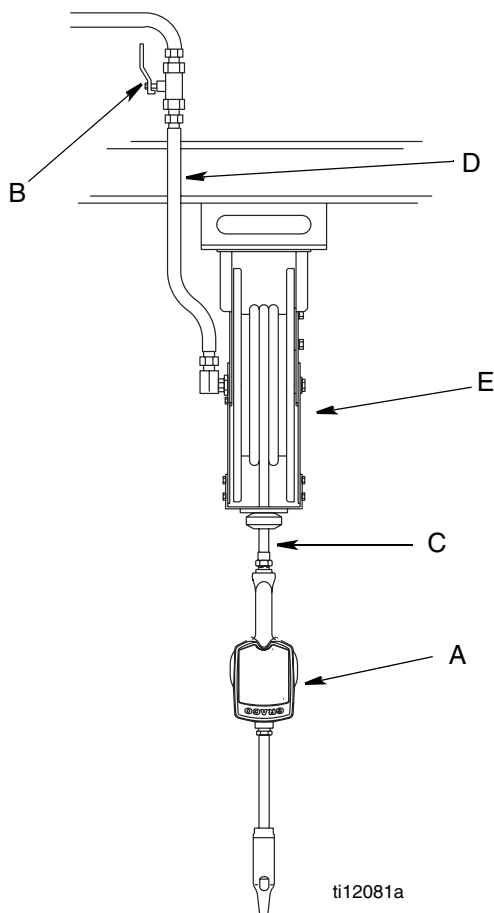

FIG. 1
FIG. 1 shows a typical hose reel installation. Dispense valves can also be installed on a console as shown in FIG. 2.
The typical installation shown in FIG. 1 is only a guide. It is not a complete system design. Contact your Graco distributor for assistance in designing a system to suit your needs.
3. Close the shut-off valve (B, FIG. 1, page 3).